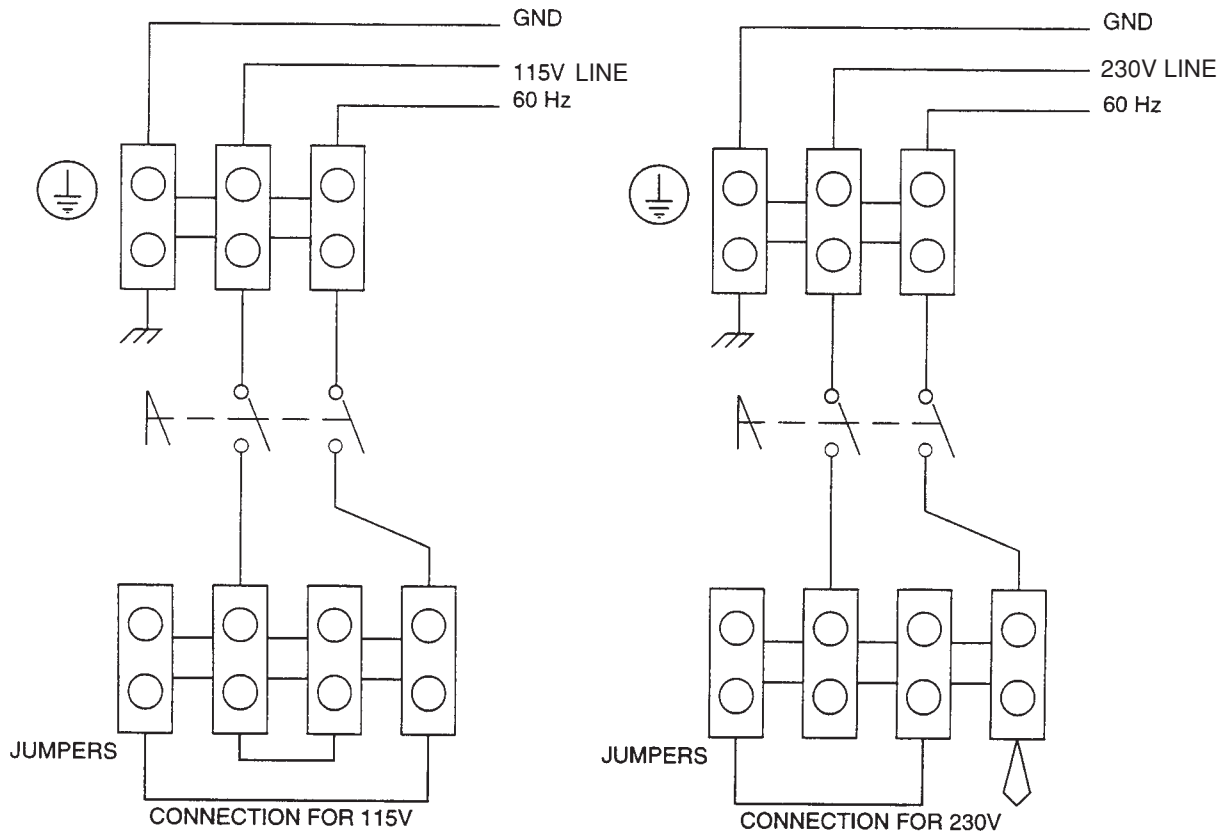

Figure A.1 Reconnect Terminal Strip
- B. Remove the four screws that hold the cover in place using a 10 mm socket and remove the cover. Locate the 4-terminal reconnect terminal strip (See figure A.1) and loosen the screws that hold the jumpers in place. Position the jumpers for the 115V connection and tighten the screws. Replace the cover and install the 4 screws that were removed.